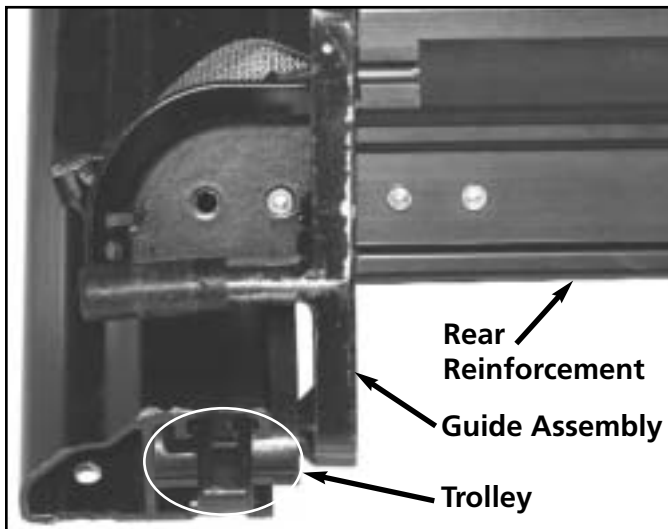

Figure S-65
18. Insert the rear cover reinforcement into the trolleys. See figure S-65.